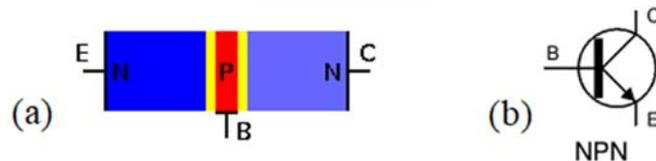

Fig. 4: (a) schematic and (b) circuit diagram symbol of a *npn*-type transistor.
A simple junction transistor is composed of a very thin ($\sim 10 \mu\text{m}$) layer of one type of doped semiconductor sandwiched between two crystals of the other type. Both *npn*-type and *pn*-type transistors are available. We will be using an *npn*-type for this laboratory. The three regions are designated the emitter (E), base (B), and collector (C), respectively as illustrated in Fig. 4(a). The circuit
diagram symbol for this type of transistor is shown in Fig. 4(b). In modern versions of this device, the emitter region is heavily doped with the appropriate impurity, while the base region is very lightly doped. The collector region has a moderate doping level so it will have a low internal resistance.